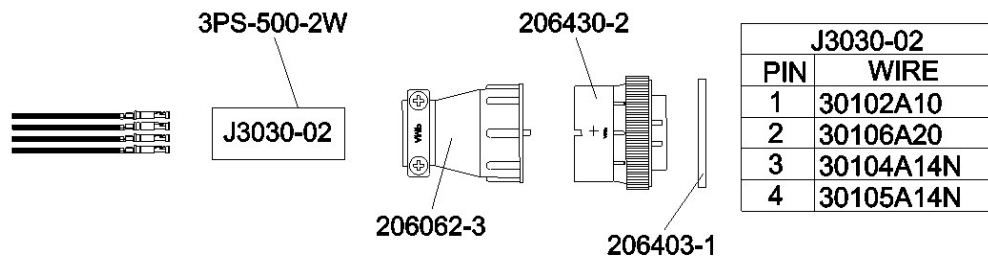

Figure 20: Instrument Panel J3030-02 Receptacle
11.2.4.3 Install wires 30102A10, 30106A20, 30104A14N and 30105A14N into the J3030-02 Receptacle, according to Figure 20.
11.2.4.4 Install the Peripheral Seal (p/n: 206403-1) into the J3030-02 receptacle using Loctite 495 or equivalent, according to Figure 20.